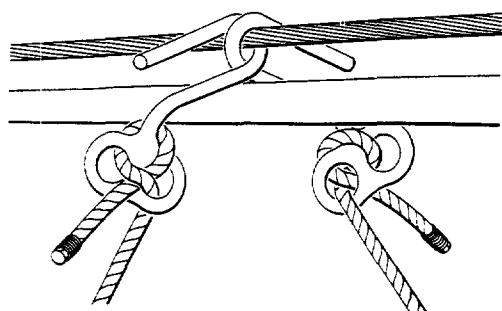
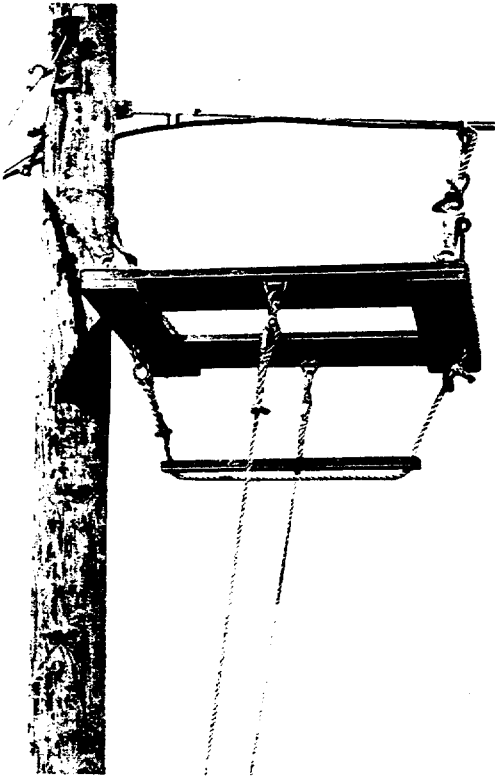
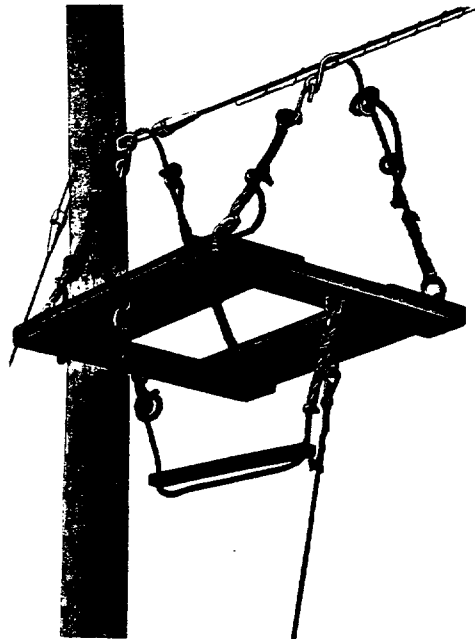

Fig. 5-Method of Engaging O Hooks
Fig. 10-D Platform Placed Adjacent to Pole
Fig. 11-D Platform At Dead-End Pole
- (g) Make sure that the support hooks have been properly attached to the strand. See Fig. 5, 6, and 7.
- (b) Make sure hooks and saddles are tied as shown in Fig. 5, 6, and 7.
- (d) Raise the platform to position approximately 30 inches below the strand and engage the locking mechanism of the B Handline to hold the platform. Engage the outer hooks or saddle and hook on the strand as shown in Fig. 5, 6, or 7. Release the B Handline lock and lower the platform until it is supported by the platform support ropes.
- (e) Disengage the handline from the hook on the platform and move the move the handline block along the strand to a position approximately 6 inches from the pole or ladder. Raise the lower side of the platform. Lock the handline and engage the hooks or saddle and hook as shown in Fig. 5, 6, 7. Release the handline lock and lower the platform until the support ropes hold it. See Fig. 9. When platform is placed adjacent to a pole the support ropes are located as shown in Fig. 10. When platform is placed at a dead-end pole the support ropes are located as shown in Fig. 11. The hooks or hook and saddle should be attached:
- (f) After the hooks or saddles and hooks are in place on the strand, the platform may be leveled by moving the support ropes through the double eye of the hook or saddle. Do not attempt any adjustments on the support ropes when standing or sitting on the platform. See Fig. 5, 6, and 7.